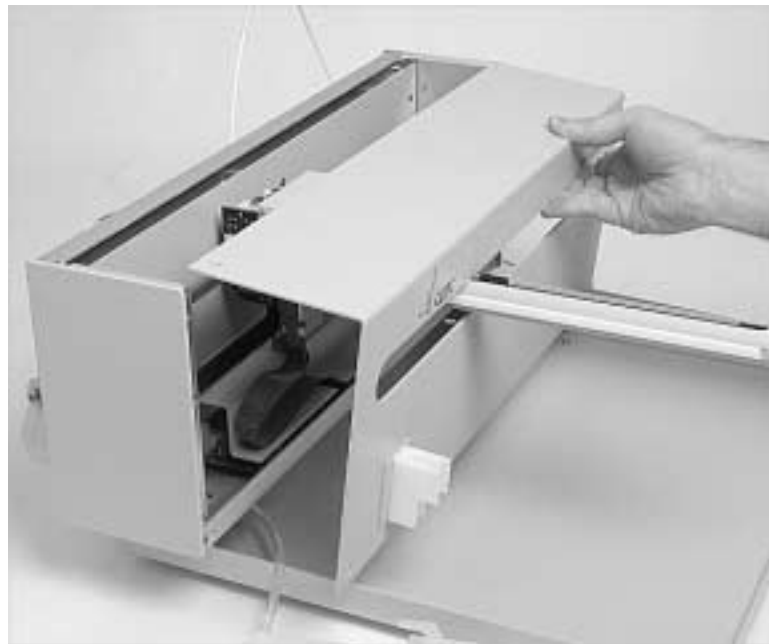

Figure 3-13. View of ASX-520 Autosampler with the front cover being removed.
7. The front cover can be removed by lifting it slightly and pulling forward (Figure 3-13).